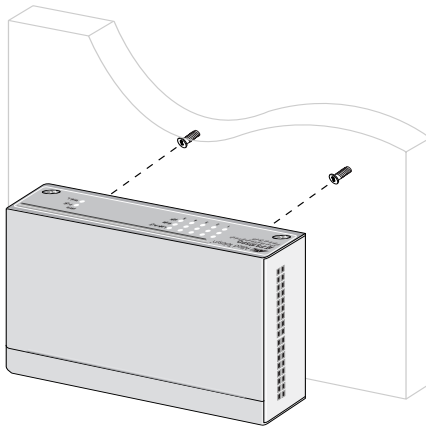

Figure 6 Installing The Plastic Anchors and Screws Onto The Wall
3. Install two plastic anchors and two screws onto the wall, as illustrated in Figure 6.